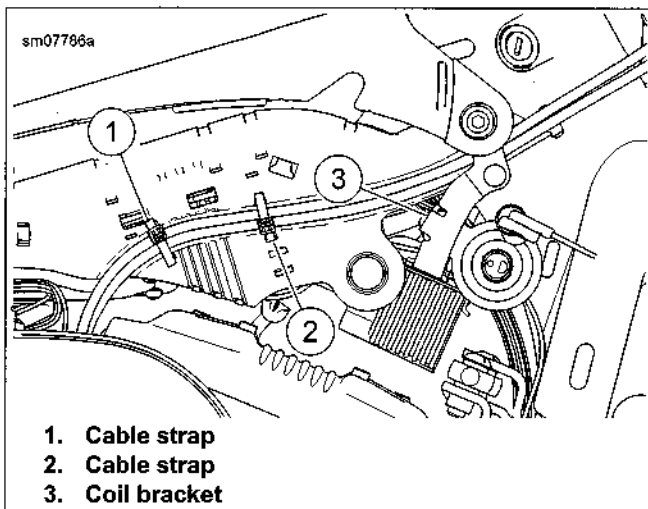
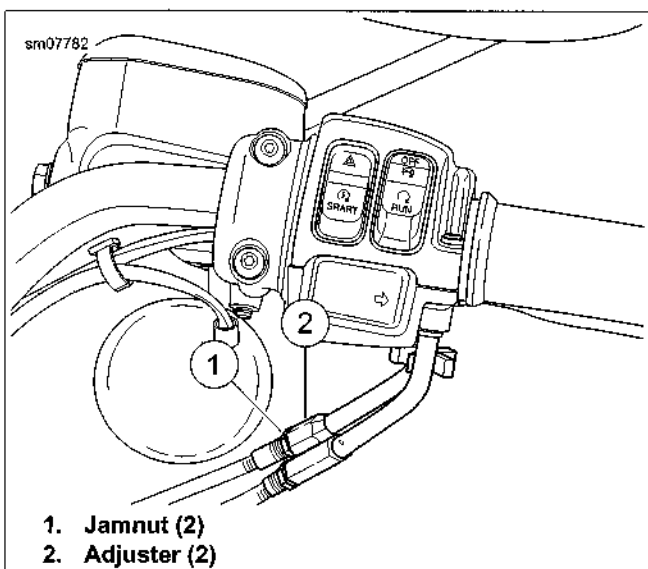
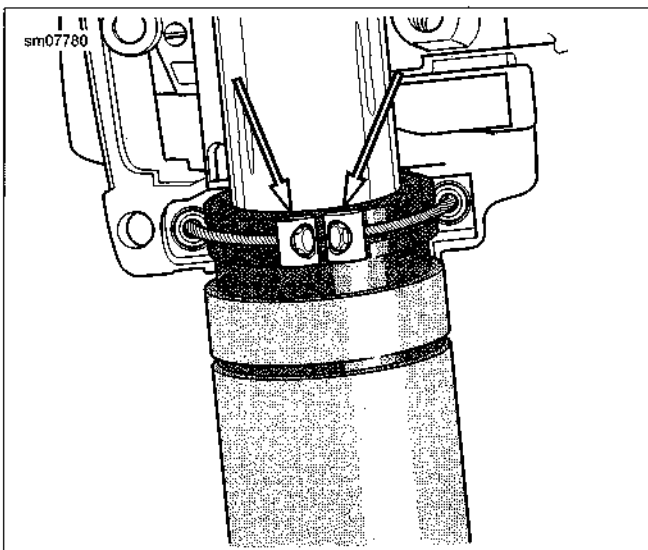

Figure 2-114. Cable Straps around Throttle Cables
Figure 2-115. Throttle Cable Adjusters
Figure 2-116. Throttle Cable Ferrules
7. See Figure 2-114. Cut cable straps (1, 2) securing throttle cables to RH wire harness caddy.
8. Disengage ignition coil bracket (3) from frame. Remove throttle cables.
- a. See Figure 2-115. Slide rubber boots off cable adjusters.
- b. Loosen jamnuts (1) on each adjuster (2).
11. See Figure 2-116. Unhook ferrules and cables from throttle control grip.